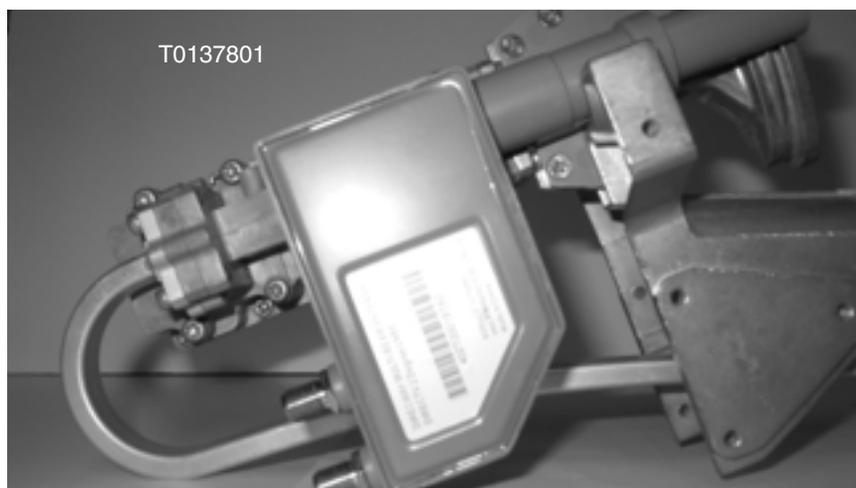

Figure 7: Install three screws
7. Use a #2 Phillips-head screwdriver to install the three Phillips-head screws. See Figure 7. You cannot reach the fourth screw hole, so do not bother with the fourth screw.